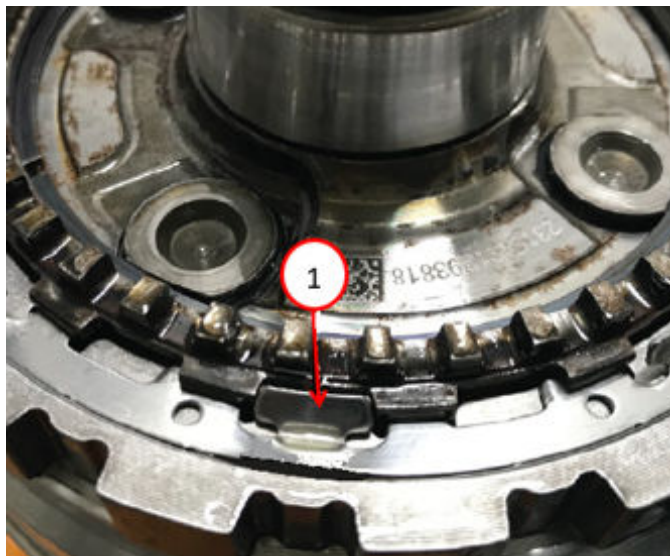

Fig. 27
41. Install the D clutch drum into the P4 annulus drum Fig. 27.